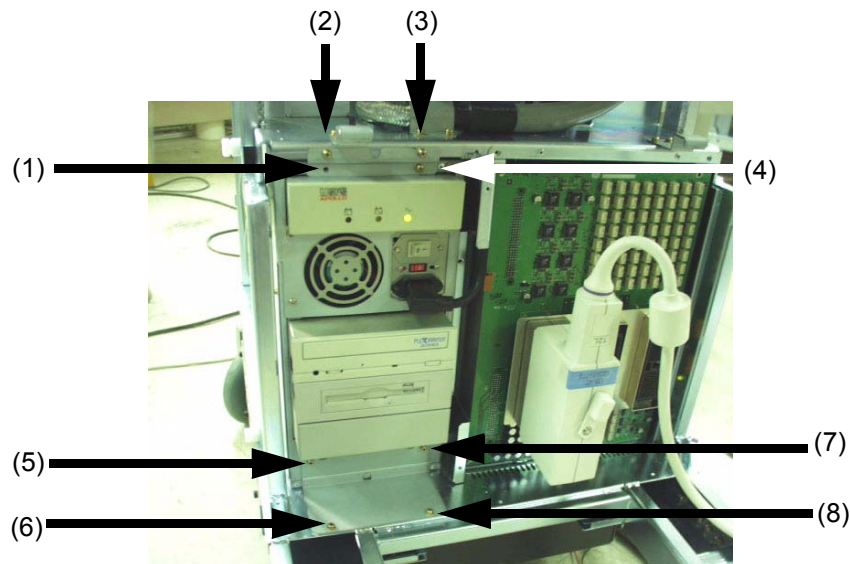

Figure 8-122 BEP Assy Disassembly
- 4.) Unscrew eight (8) screws (1-8). Refer to Figure 8-122 on page 8-72 ..